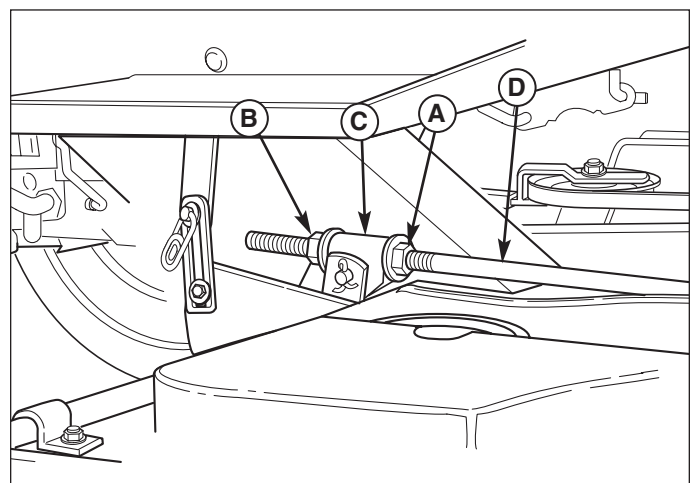

Figure 39. Leveling The Mower Front-To-Back
8. See Figure 39. To raise front of mower deck, loosen front nut (A) and turn rear nut (B) against bracket (C).
9. To lower front of mower deck, loosen rear nut (B) and bracket (C) will move backwards to lengthen rod.
10. Re-check measurement before tightening front nut (A) against bracket.